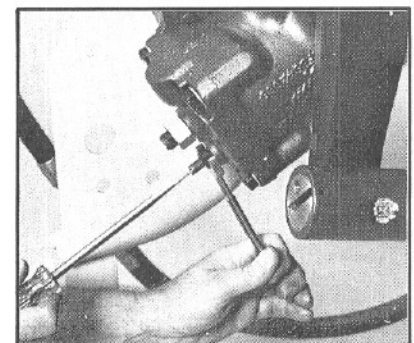

Figure 33
- 4.6 To adjust the other poppet, repeat these instructions for full lock in the other direction (FIG. 33).